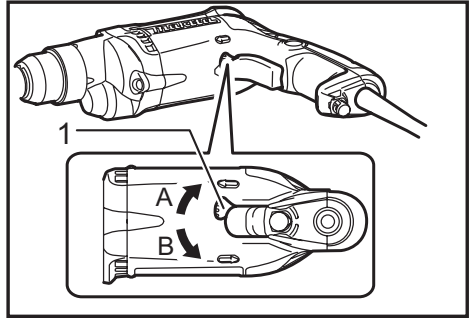

Fig.6
► Fig.6: 1. Reversing switch lever